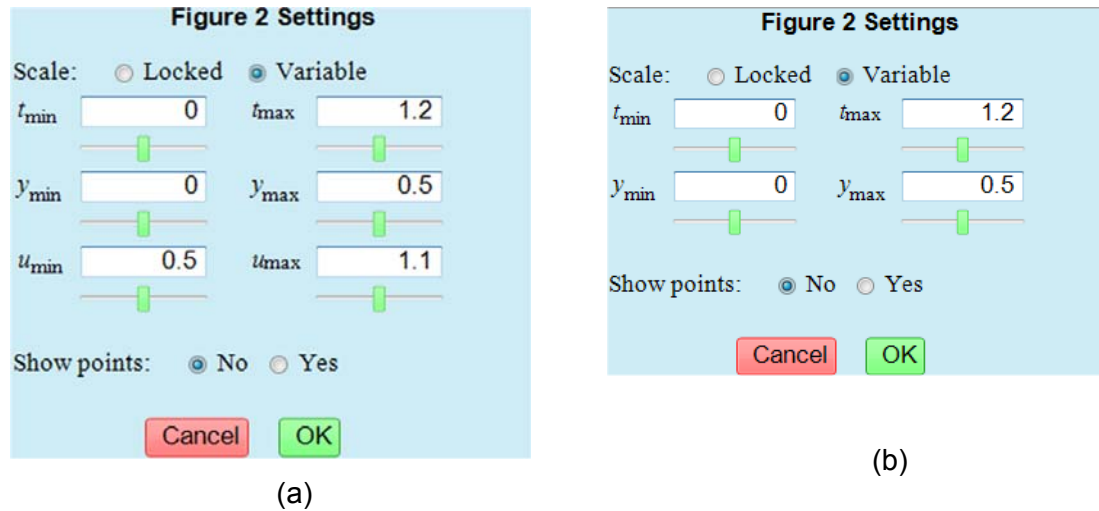

Figure 22. Auxiliary window to configure the scale in the *time response* zone:
On the other hand, to configure the scale of the *time response* zone, the user has to click on the gearwheel icon located in the right upper corner of the zone (see Figure 20). When the user does this action, an auxiliary window is shown (see Figure 22). There are two types of scale:
- Settling time t_s . It is the time required for the response curve to reach and thereafter remain within a 2% percentage of its final value. If LCSD cannot compute automatically t_s , then the value -1 is shown in the table. In this case, the user has to increase the simulation time t_{\max} in the auxiliary window of the *time response* zone (see Figure 22). If the closed loop system is unstable, the value NaN is shown in the table.